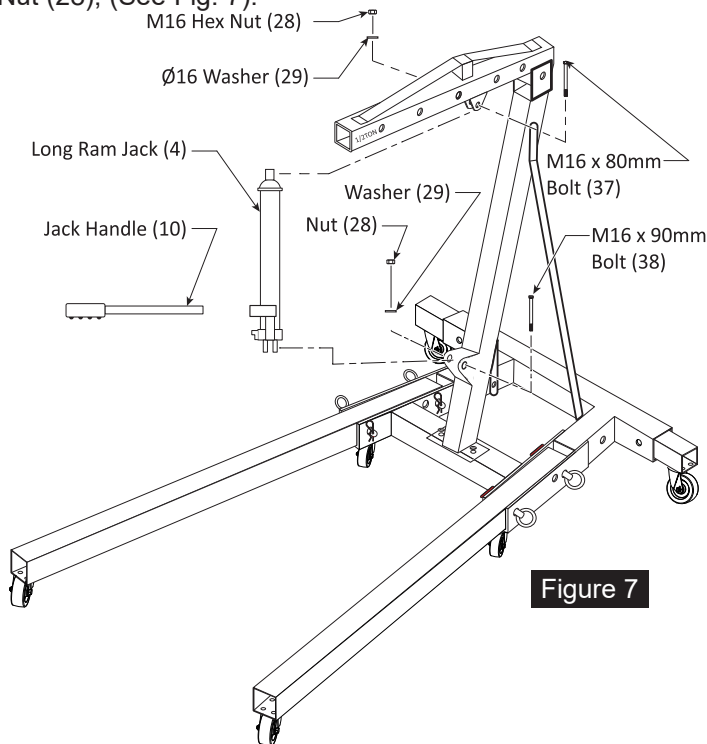

Figure 7
Insert the lower end of the Jack into the Post bracket and secure using the M16 x 90 mm Bolt (38), Ø16 Washer and M16 Hex Nut. Lift the Crane Boom by hand and then secure the Top of the Jack to the Boom bracket using the M16 x 80 mm Bolt (37), Ø16 Washer (29) and M16 Hex Nut (28), (See Fig. 7).